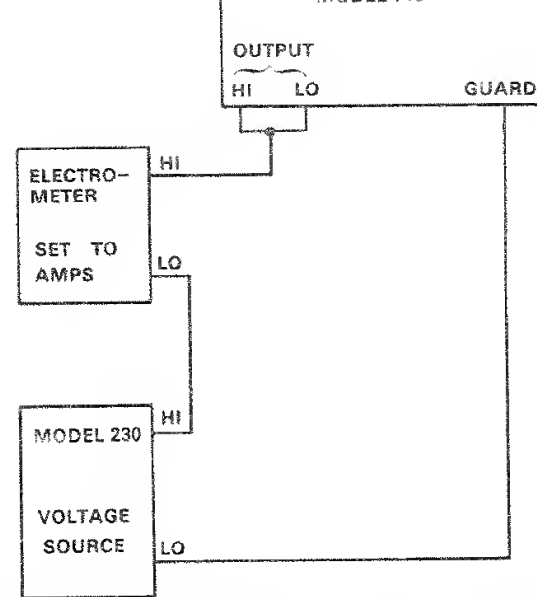

Figure 5. Model 7053 Input Isolation (Common Mode) Test Circuit
- E. For Input Isolation (common mode) repeat steps B through D using the setup shown in Figure 5.